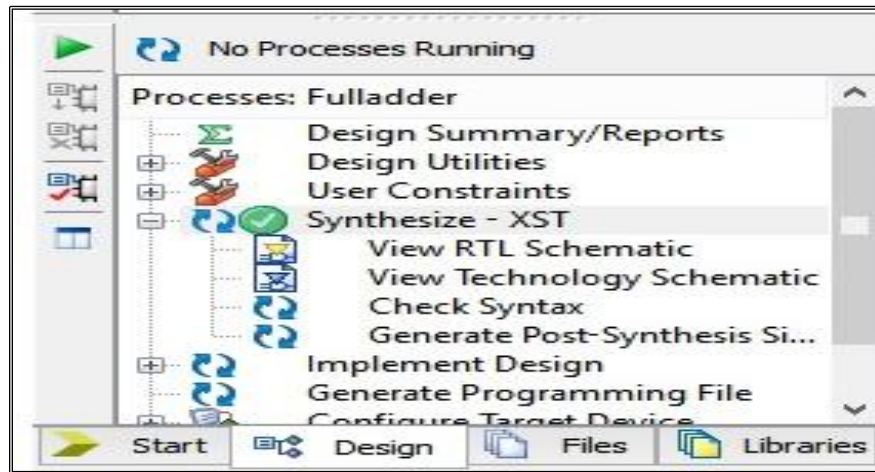

Fig 3.18: Synthesis
20. Next we have to synthesize the design. For synthesis right click on the **Synthesize-XST** and select **Run**. If the design is successfully synthesized then a green check will appear near the Synthesize-XST as shown in Fig 3.18 and **“Process "Synthesize - XST" completed successfully”** is displayed in the console window.